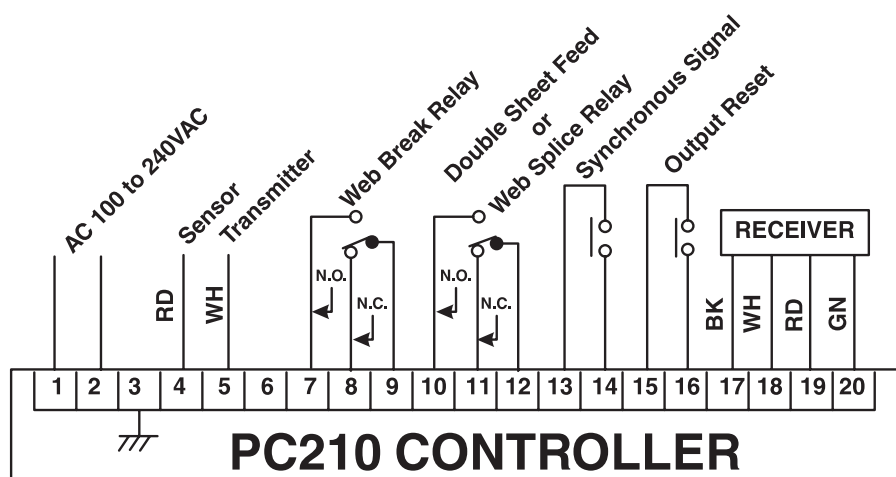

FIGURE 3
1. Provide AC Power 100, 110, 120, 200, 220, 240VAC, 50 or 60 Hz at Terminals 1 and 2. Connect the ground wire to Terminal 3 (See Figure 3).
2. Connect the Sensor Transmitter 16 ft. [5 m] cable to Terminals 4 and 5 (See Figure 3).
3. Terminals 7, 8, and 9 provide the Web Break Relay contact signal. Wire as appropriate for Normally Open (N.O.) or Normally Closed (N.C.) logic (See Figure 3).
4. Terminals 10, 11, and 12 provide the double sheet-feed (two sheets stacked on top of each other) contact signal for sheet-fed machines or the splice contact signal for web-fed machines. Make electrical connections as appropriate for N.O. or N.C. logic (See Figure 3).
6. A remote button can be used to reset the system after a double feed or splice signal, when the machine is in manual reset mode. If this option is used, a customer supplied N.O. momentary contact remote Output Reset switch must be connected to Terminals 15 and 16 (See Figure 3).
7. Connect the Sensor Receiver 16 ft. [5 m] cable to Terminals 17, 18, 19, and 20 (See Figure 3).